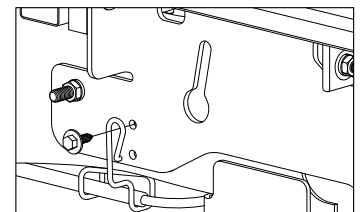

FIGURE C8: View from outside of Driver Side Frame.
- 5. Replace cable bracket.** If the brake cable bracket was removed at the beginning of the side plate installation, replace it onto the drivers side plate using the M8 bolt that was originally in the frame, See Figure C8.